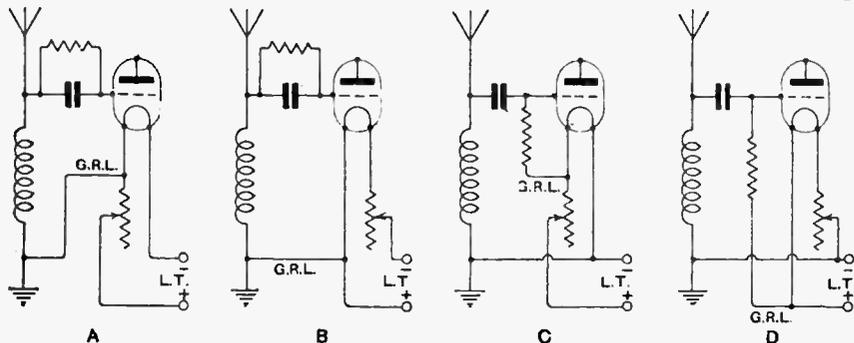
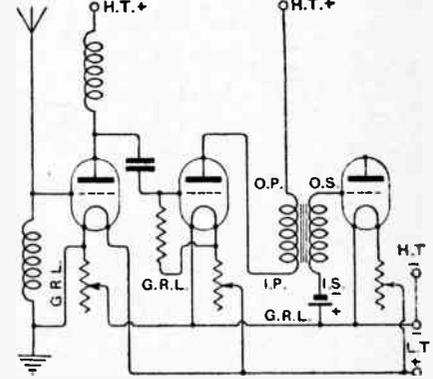

Fig. 1.—Alternative grid return lead connections.
Fig. 2.—Correct grid return lead connections in a three-valve receiver.
volts works best as a rectifier when the grid is made 2 volts positive, a 0.06 type valve is designed to give of its best as a rectifier when the grid is made 3 volts more positive than the negative side of its filament, and so on. This is very convenient, since it means that we need only connect the grid return lead directly to the positive side of the valve filament in order to get the correct value of grid bias. Let us glance for a moment at Fig. 1 (A). Here the leak is placed across the grid condenser, and bias is applied via the aerial tuning coil and grid leak, the grid return lead (marked G.R.L.) being connected to the positive side of the filament. It may be asked, why not take the G.R.L. direct to L.T.+ in Fig. 1 (A). This, however, would give the grid a greater positive potential with respect to the filament negative than is possessed by the filament positive owing to the voltage drop across the rheostat. This would not matter greatly if we were using, say, an 0.06 valve with a 3- or 4-volt source of filament supply, but if we were using a 6-volt accumulator and a 50 ohm rheostat in conjunction with this valve, then the grid would have far too much positive bias. Incidentally, also, any variation of the rheostat would also alter the value of the grid bias.
We can arrange, however, to connect our G.R.L. to L.T.+, and still obtain the correct bias by the simple expedient of putting our rheostat in the negative lead where it will have no effect whatsoever on the value of grid bias, as in Fig. 1 (B). It will be noticed that this entails the earthing of L.T.+ instead of the more customary earthing of L.T.-. This is a point that puzzles many, but actually it does not matter in the slightest whether we earth L.T.+ or L.T.-, the earthing
of either pole of the battery being merely incidental to the connection of the G.R.L. If you have a foible for earthing L.T.- you can easily do it by following out the connections of Fig. 1 (D), where the grid leak is returned direct to L.T.+ and the aerial coil no longer forms part of the G.R.L. In Fig. 1 (D) either L.T.- or L.T.+ may be earthed as fancy dictates, this circuit being exactly the same fundamentally as Fig. 1 (B). Fig. 1 (C)
is exactly the same as Fig. 1 (A) except that the grid leak is no longer placed across the grid condenser, and so it is immaterial which pole of the battery we earth. There is no magic in placing the grid leak across the grid condenser or otherwise, it being a matter of personal taste. Fig. 2 gives the grid return leads for the other valves of a conventional 1-v-1 receiver. The H.F. valve requires that its grid be not less negative than the negative side of its filament. Therefore we connect our G.R.L. direct to the negative side of the filament. Do not connect it to L.T.-, or the result will be that any variation of the filament rheostat will alter the grid potential. Matters could be simplified and made more conventional by placing the rheostat in the negative lead and connecting the G.R.L. to L.T.-. In the case of an H.F. valve it so happens that the L.T.- is always earthed and not L.T.+, but this, again, is only incidental to the G.R.L. connection, and has no virtue in itself. With regard to the detector valve a moment's thought will reveal to us that following a tuned anode stage it is impossible to place the grid leak across the grid condenser, as this would permit the
H.T. battery to interfere and give the grid a heavy positive bias. The bottom end of the grid leak can be connected as shown, or the rheostat could be put in the negative lead, and the bottom end of the leak connected to L.T.+ direct. In the case of the L.F. valve it is necessary to make the grid more negative than the negative side of the filament. This is done by means of a small biasing battery. It is important to note, however, that the positive end of this biasing battery must be connected to the negative side of the valve filament. Brief consideration will reveal why. Let us assume that we want to make the grid $\frac{1}{2}$ volts more negative than the negative side of the filament. Therefore by following the connections shown, only one dry cell ($1\frac{1}{2}$ volts) is needed. Assuming that we are using a D.E.5 valve and a 6-volt accumulator, and have connected the positive of this biasing battery to the filament positive: we shall then require a biasing battery of $7\frac{1}{2}$ volts, since we have first to overcome the 6 volts positive bias, given to the grid by returning the G.R.L. to filament positive before we can start to put actual negative bias on the grid. However, no disadvantage would be given by this method, other than having to use an unnecessarily bulky grid battery. An excellent rule to remember is as follows: Place all rheostats of amplifying valves, whether H.F. or L.F., in the negative lead and return the G.R.L. direct to L.T.—. In the case of valves used for grid rectification, place all rheostats in the L.T.— lead and connect the G.R.L. direct to L.T.+ . Place the grid leak across the grid condenser or otherwise as fancy dictates, except in cases where the coupling to the preceding valve is by means of the tuned anode method, as in the case of the detector valve in Fig. 2. Do not trouble about such points as the earthing of L.T.— or L.T.+ , which will automatically determine themselves according to the connections of the G.R.L.